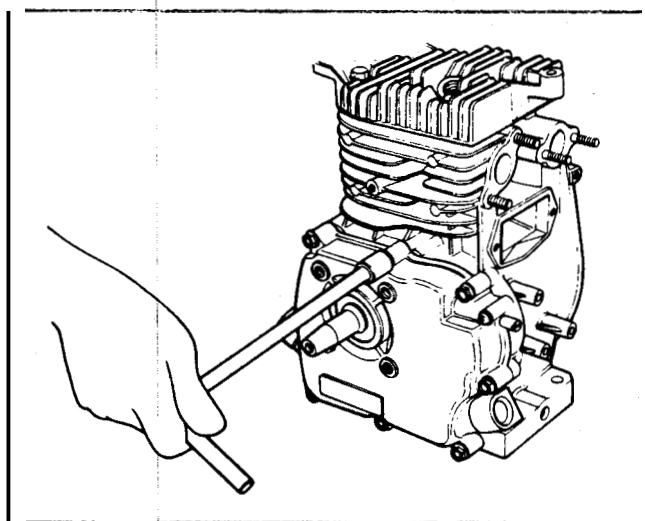

Figure 76
34. Remove the crankcase side cover. Take care not to damage the seals or crankshaft on removal of the cover. See Figure 76.